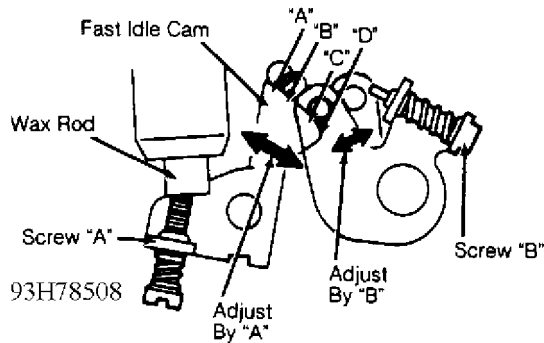

Fig. 7: Adjusting Fast Idle Cam Opening (RX7)
2) Turn screw "B" until separation point is as described in step 1). See Fig. 7. To adjust fast idle cam opening, turn screw "A". Using screw "A", align points on fast idle cam with roller at corresponding temperature. See FAST IDLE CAM OPENING SPECIFICATIONS (RX7) table.